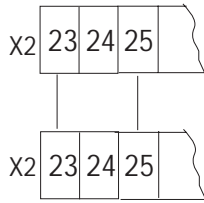

Fig. 28
- Connect the X2 terminal strips of the two 960MP electronic control units to each other, as shown in figure 28.